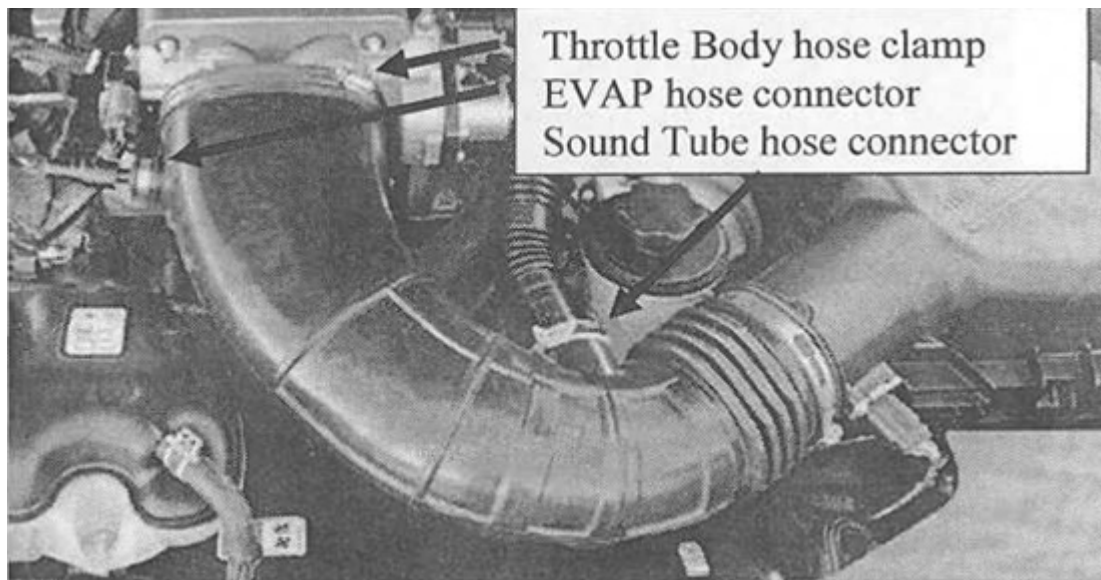

Figure 1
1. Remove the factory intake assembly by loosening the hose clamp securing the tube to the throttle body. Also disconnect the hoses for the sound tube and EVAP system. These hoses are indicated in Figure 1.